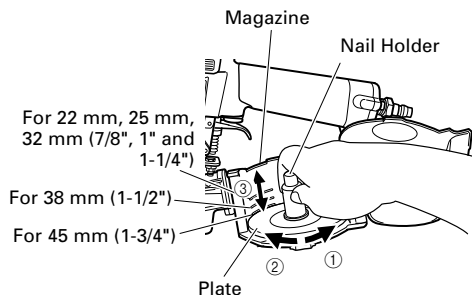

Fig. 2
- (2) Adjust the position of the nail holder according to the nail length. (Fig. 2)